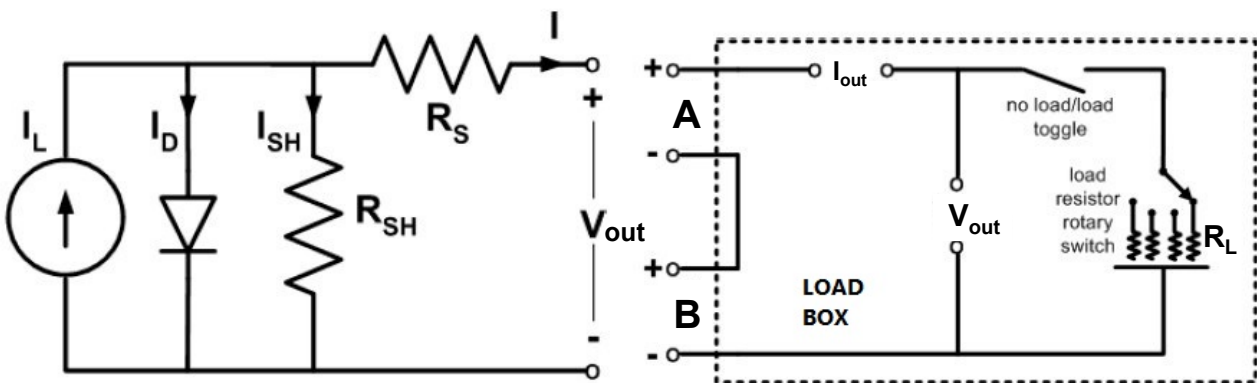

Figure 1: The circuit on the left represents the solar panel. It is connected to the load box on the right, which is used to vary the load resistance R_L .
In Week I, you will characterize the solar panel circuits (as shown in Figure 1) with respect to load and distance from light source. This week, a halogen lamp will be used as a light source in a laboratory setting. Next week, you will go out and perform field tests. Note the solar panel is a non-ideal power supply and has an internal resistance R_S , similar to the battery in the first electronics lab. Please take the time to understand everything this week, as it will provide a foundation for the independent study that you will perform next week.
1. Set the toggle switch to “Short” or “Closed”(load toggle in Figure 1).
3. Plug the black banana cable on the solar panel into the black receptacle B on the load box. (Refer to Figure 1 for further clarification.)
4. Connect the “ V ” leads of the load box (V_{out} in Figure 1) to the Keysight Precision DMM using the BNC coaxial cable with banana plug adapters on the end.
5. To measure the current, use the orange handheld DMM set to the 200mA range, and connect it to the “ I ” leads on the load box (I_{out} in Figure 1) using the banana plug cables.
6. Locate the **Irradiance Sensor** (dark blue box). It has twelve different settings that can be chosen for sensitivity and scaling of the voltage output. Setting (9) is recommended for this laboratory exercise.
3. Shown in the right half of Fig. 1, the load box contains a number of resistors that can be selected by turning the knob. Be sure the resistance knob is turned counterclockwise. This is the same as the first electronics lab, but with all the resistors conveniently packaged in a switching box.